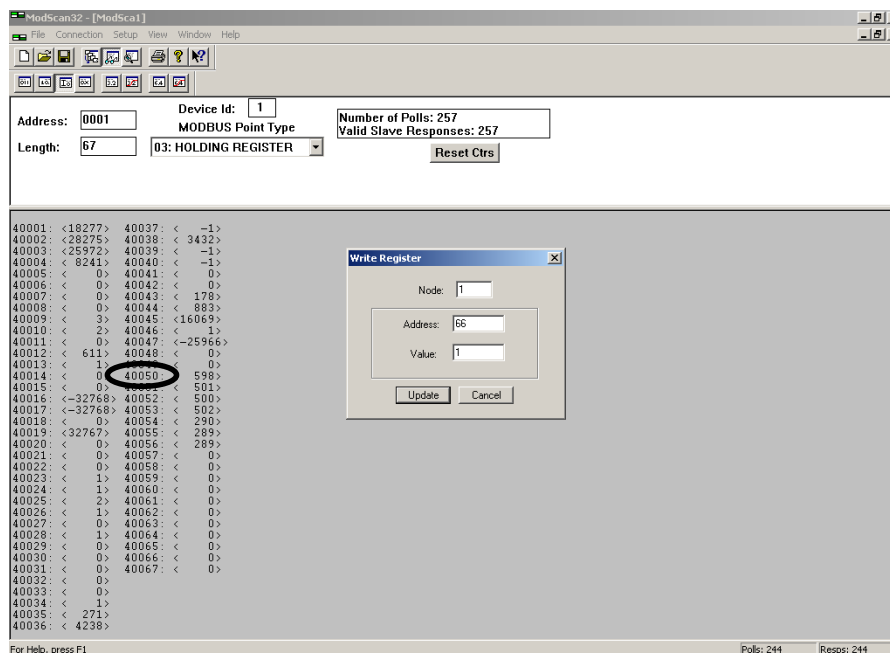

FIGURE 20-19. WRITE COIL DIALOG BOX
- On the main ModScan menu (see Figure 20-19), change the Length to 49.
- To output a value from the ModLon to a network device, double click on register 40050. The Write Register dialog box is displayed (see Figure 20-19).